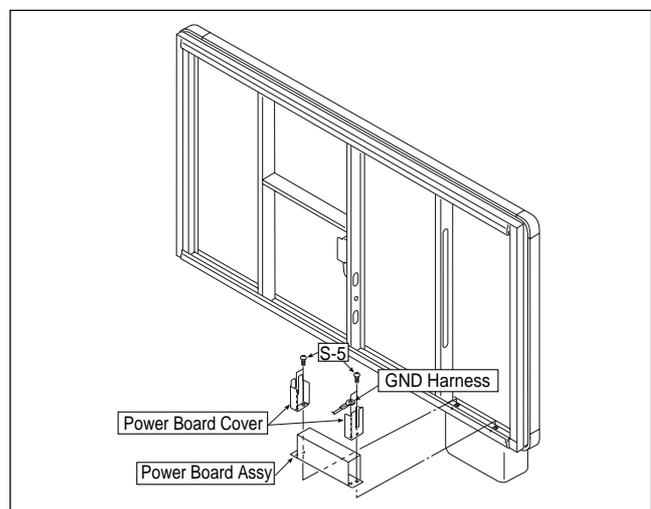

Fig. 4
### 3) Remove the Power Board Assy. (See Figure 4.)
1. Remove the "S-5" screws as shown in Figure 4 and then remove the Power Board Cover. (Tightening torque :  $8\pm 2.4\text{kgfcm}$ )